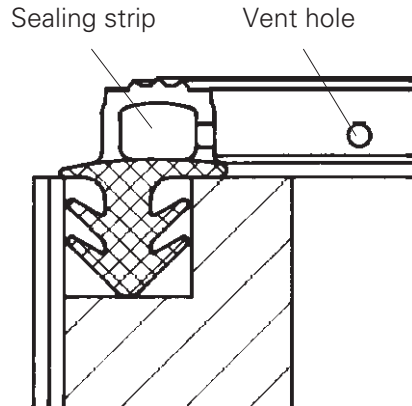

Figure 11
1. Carefully remove the faulty sealing strip (Fig. 11).
**The vent holes in the sealing strip must face inward (Fig. 11).**